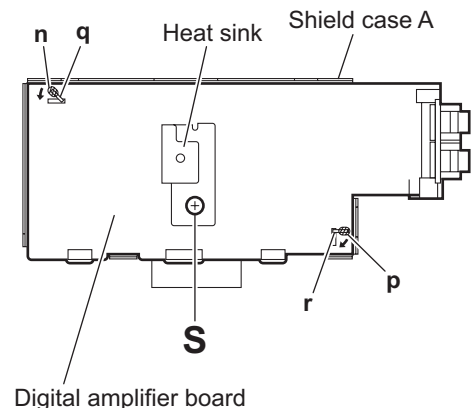

Fig.22
- (4) From the forward side of the digital amplifier board, remove the screw **S** attaching the heat sink. (See Fig.22.)
- (5) Remove the solders from the soldered sections (**n, p**) and bend the sections (**q, r**) of the shield case A in the direction of the arrow. (See Fig.22.)
- (6) Take out the digital amplifier board from the shield case A.